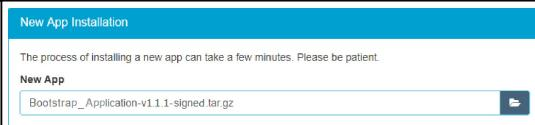

Figure 44
3. In the dialog shown in Figure 44, click **Install**; screenshots as in Figures 45-46 will be shown.